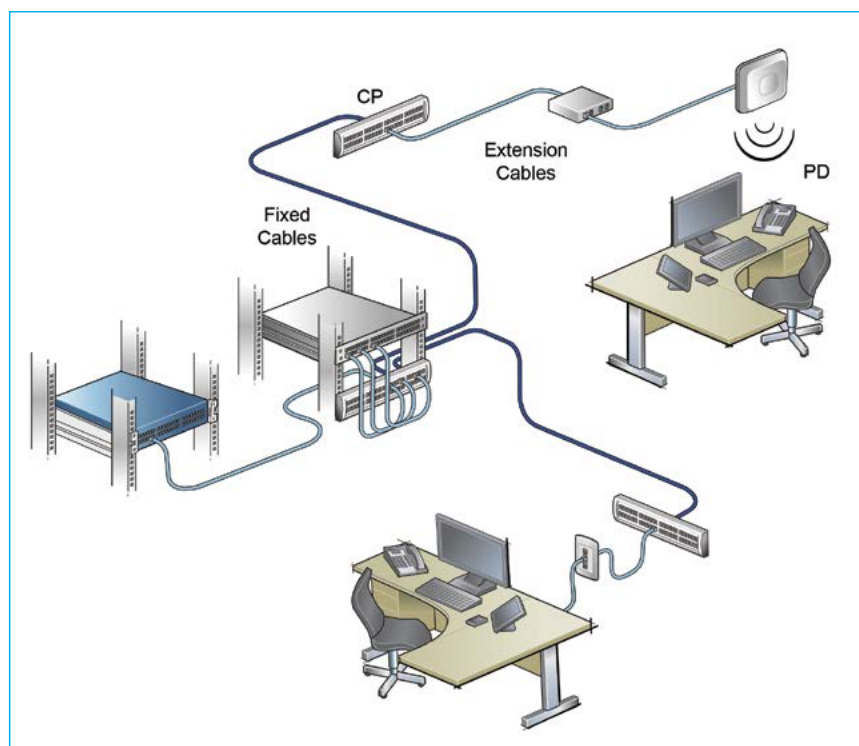

Figure 7: Zone cabling using consolidation points
The UCG model, as shown in Figure 7, uses cable runs from the equipment room to specific "building zones." A consolidation point (CP) within each zone allows fixed cabling to be installed up to the CP; drop cabling then runs from the CP to the TO for each PD. This approach provides additional flexibility in cabling from the CP to the first TO in each cell, as well as providing spare capacity for additional TOs as needed.